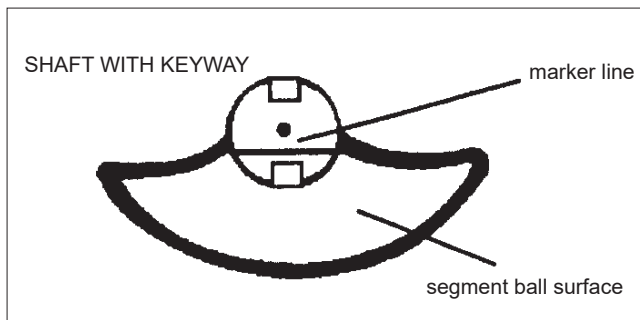

Fig. 24 Segment and shaft position
- Install the drive shaft (11). Note the location of the pin hole and the keyway. See Fig. 24.